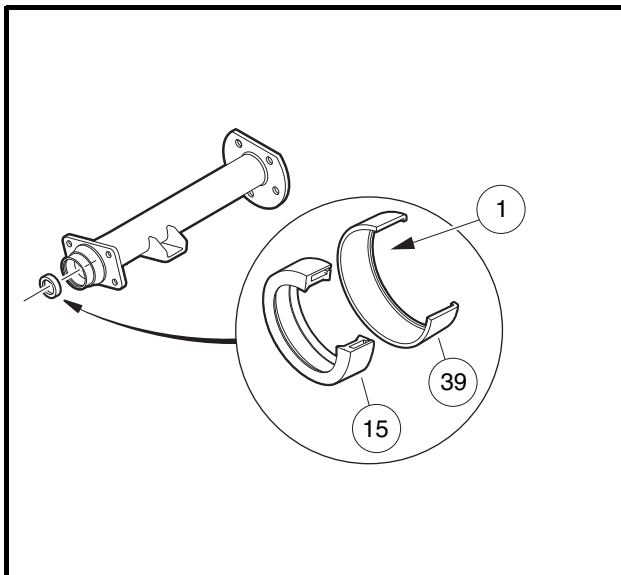

Figure 17-3 Axle Seal and Adapter Ring
- 6.2. Use a press to separate the axle oil seal (15) from the adapter ring (39) (**Figure 17-3, Page 17-2**). Retain the adapter ring and discard the oil seal.
- 1.1. Clean seal seat in the adapter ring (39) (**Figure 17-3, Page 17-2**).
- 1.2. Place a new seal (15) in the adapter ring with the seal lip facing toward the adapter ring lip (1) (**Figure 17-3, Page 17-2**). Use an axle seal tool (CC P/N 1014162) and mallet to tap it in until it seats firmly in position (**Figure 17-3, Page 17-2**). A hydraulic press may also be used with the axle seal tool.